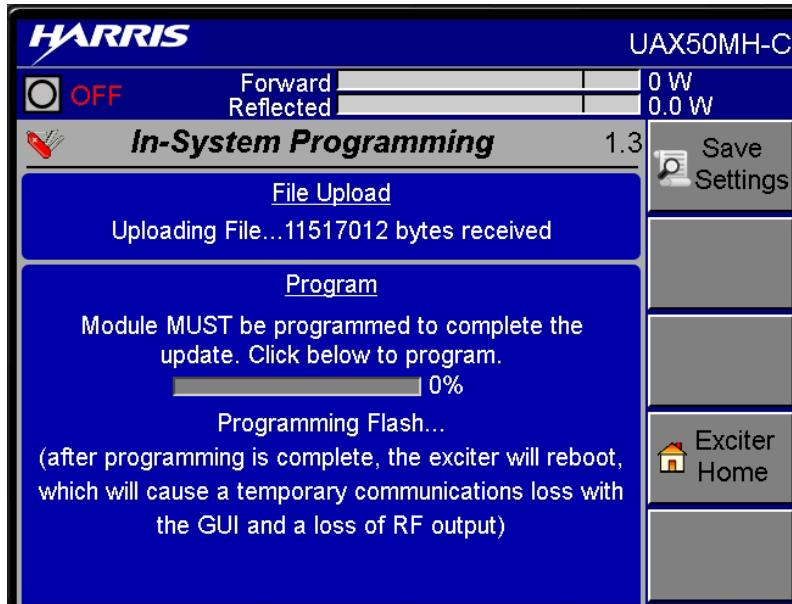

Figure 5-18 Programming Screen
STEP 11 The screen shown in Figure 5-18 will appear indicating that programming has begun. This process will take several minutes. Once programming is complete the web connection to the UAX-C will be broken and communication with the UAX-C will cease (a yellow error screen will be displayed).